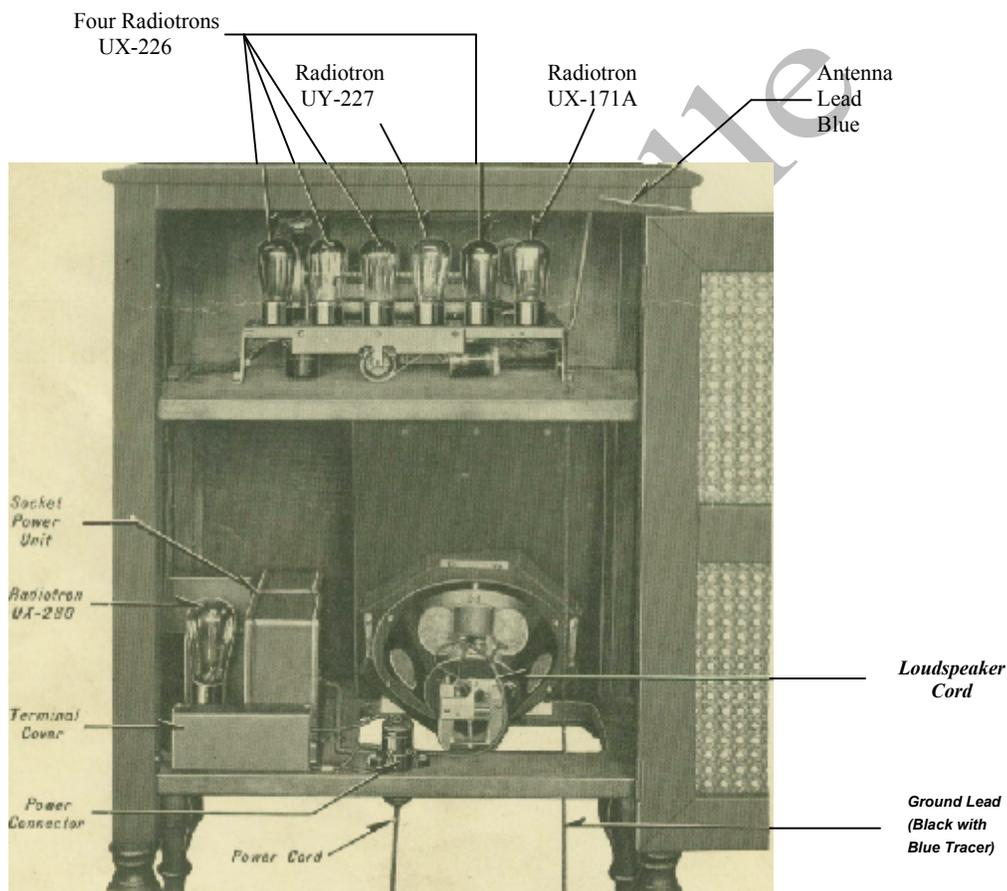
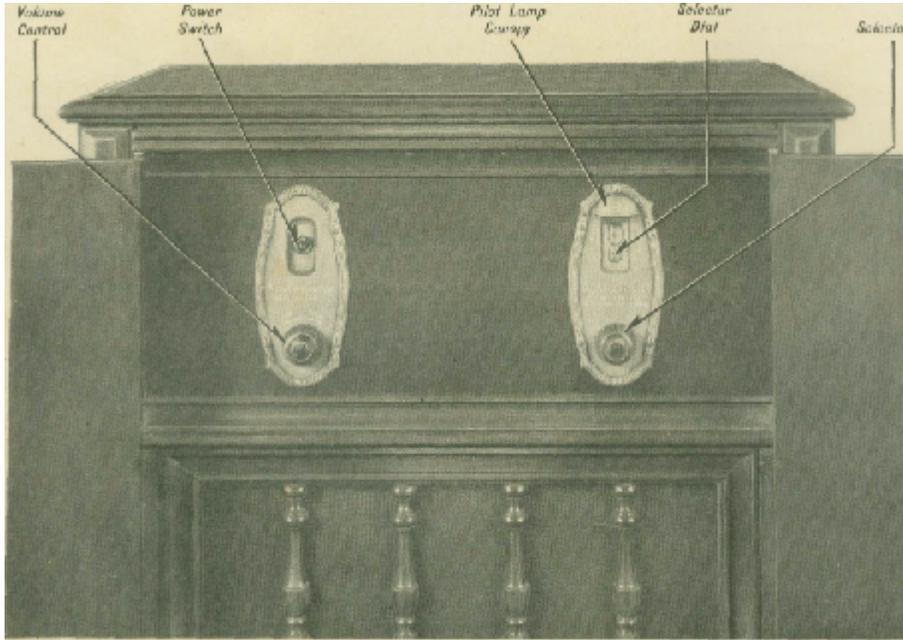

Fig. 2 Rear View with Door Open
Fig. 4—Panel and Controls
**Preliminary**—After removing RCA Radiola 51 from the shipping container, open the rear door. Unwrap the power cord and the antenna and ground leads. Plug the power cord into the bottom of the power connector, and see that the plug on the short cord from the Socket Power Unit is properly inserted at the top of the power connector, as shown in Figure 2. Pass the antenna and ground leads out through the holes provided as shown in Figure 2.
Connect the antenna lead (blue) of the Radiola to the lead-in wire, and the ground lead (black with blue tracer) to the ground wire (see Figure 2). Both connections should be soldered and insulated.
**Radiotrons**—The Radiotrons should always be handled carefully. Remove the red paper label from over the UX-171-A socket. Insert the seven Radiotrons in the proper sockets, as shown in Figure 2. Be sure that the "UX" Radiotrons are faced so that the two large pins enter the large holes, and that the base of each Radiotron rests squarely against the socket.
**Loudspeaker**—See that the connections of the loudspeaker cord are secure at the loudspeaker terminals (Figures 2 and 6).
Insert the attachment plug of the power cord in an electrical outlet. Set the Power Switch (Figure 4) to the "ON" position, and make sure that the seven Radiotrons and the pilot lamp are lighted. (If they are not lighted, refer to "Power Supply", Part III, page 9, for further instructions.) When sure that all Radiotrons are lighted, snap "OFF" the Power Switch.
To operate RCA Radiola 51, refer to Figure 4 and proceed as follows:
The Voltage Switch is accessible by removing the Terminal Cover (Figure 2). Before removing this Cover, the Power Switch (Figure 4) should be set in the "OFF" position and left in this position until the Terminal Cover is replaced.
**Power Supply**— Should the pilot lamp and Radiotrons fail to light with the Power Switch in the "ON" position, it is probable that the Radiola is not properly connected to the power supply. Make sure (1) that the attachment plug is properly inserted in the electrical outlet;
(2) that both the upper and lower attaching plugs are properly inserted at the power connector, Figure 2; and (3) that the current is not switched off at any point.